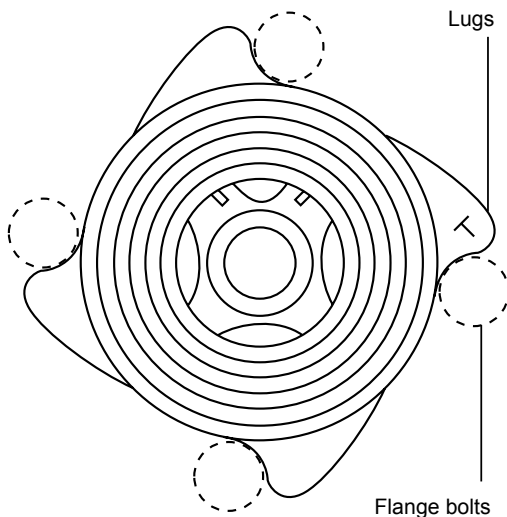

Fig. 3
- 3.4** Valves must only be installed where 'weld neck' flanges are used. Other flange types may restrict operation. Rotate the valve body to ensure that the cast lugs centralise inside the flange bolts (see Figure 3)